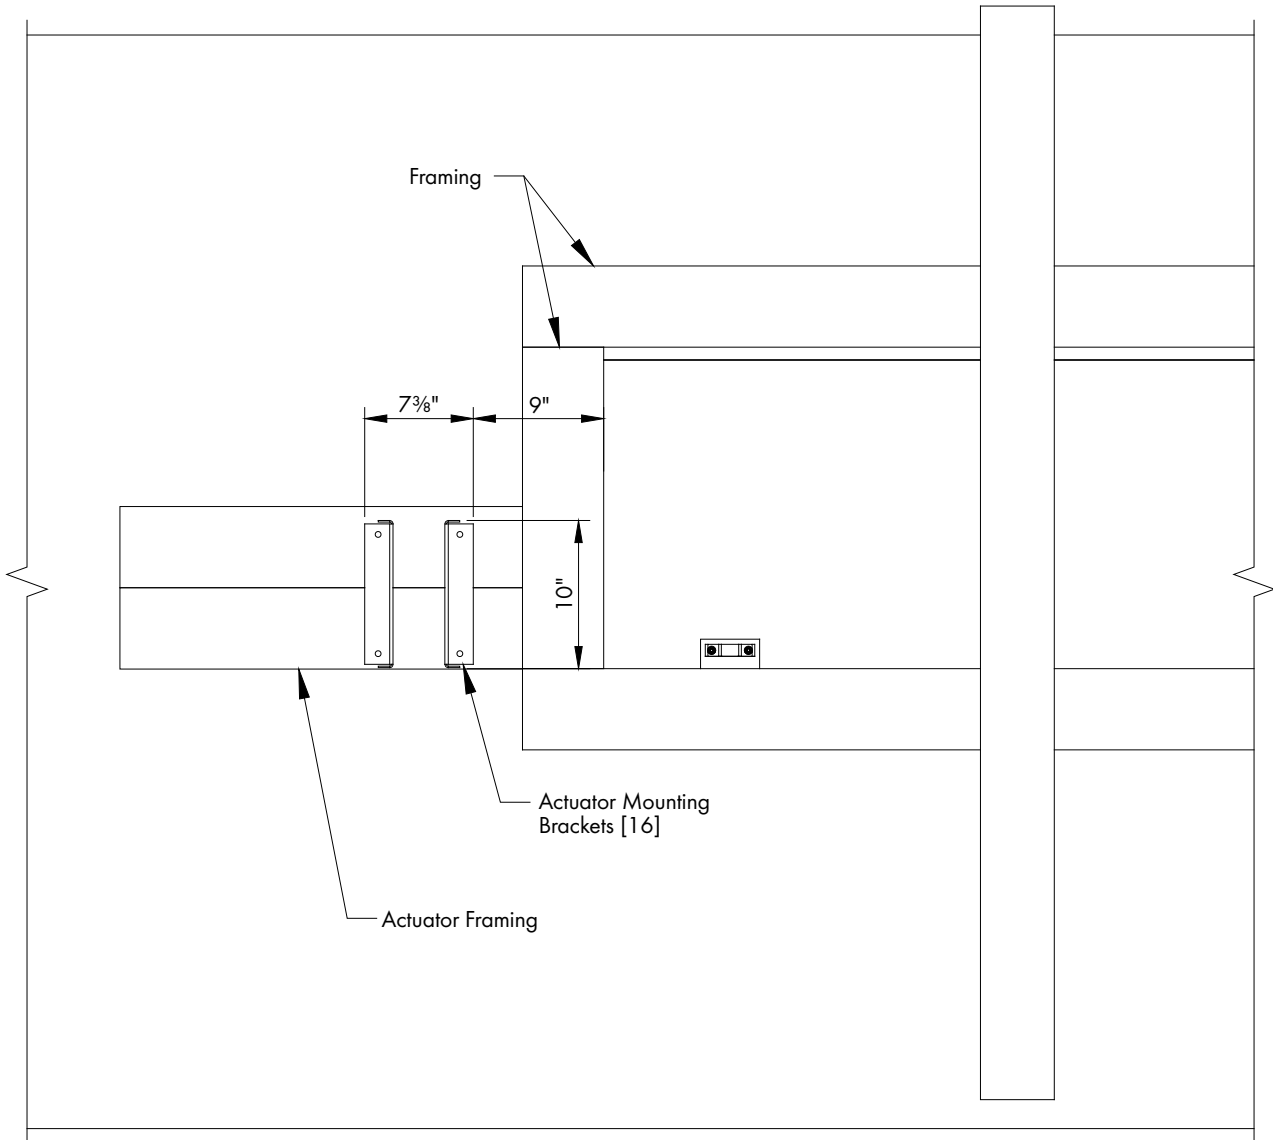

Figure 27
Install additional framing on one end of the framing so (2) Actuator Mounting Brackets [16] can be installed. The top of the Brackets should be 10" above the top of the bottom framing and the first Bracket should be 9" from end inside edge of the end framing and the second Bracket should be 7³/₈" from the first Bracket. See Figure 27.